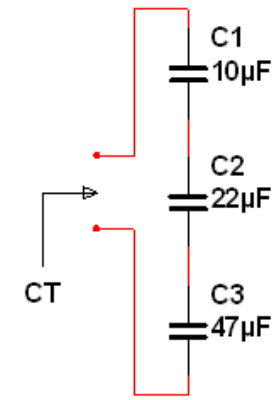
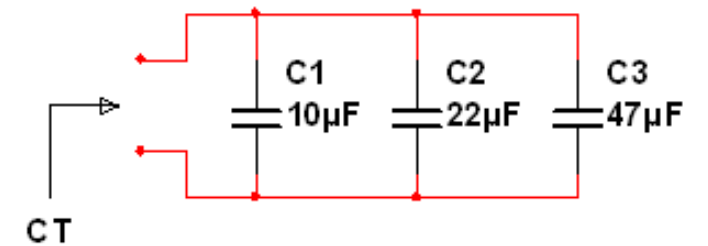

Figure 1
Figure 2
- MEASURE AND RECORD THE CAPACITANCE OF EACH CAPACITOR USING THE LCR METER. CONNECT THE CAPACITORS AS SHOWN IN FIGURE 1 AND MEASURE AND RECORD THE TOTAL CAPACITANCE, C_T . THEN CONNECT THE CAPACITORS AS SHOWN IN FIGURE 2 AND MEASURE AND RECORD THE TOTAL CAPACITANCE, C_T .